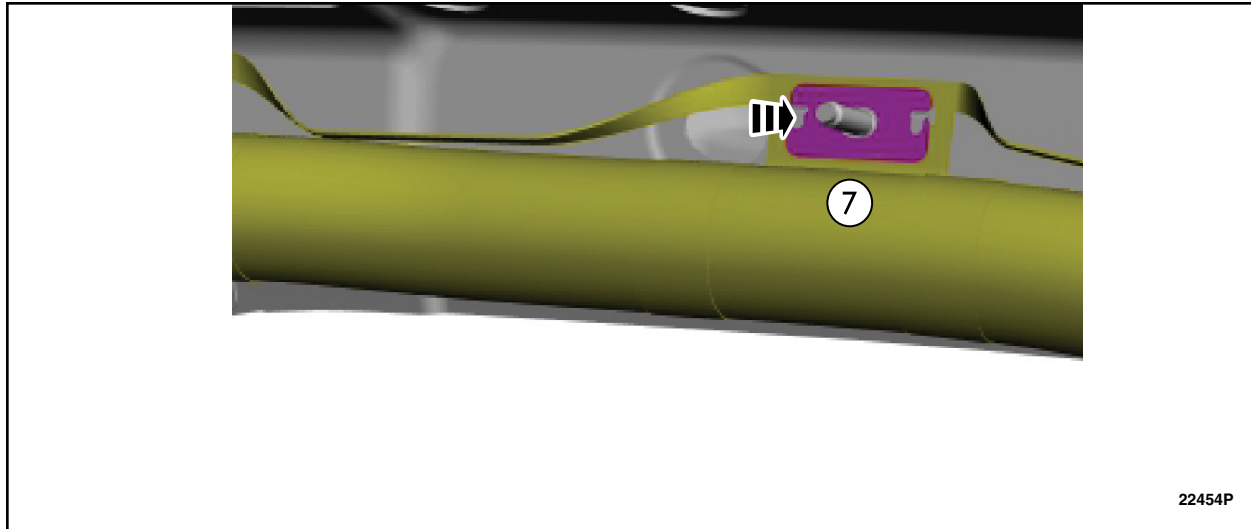

FIGURE 28
30. Attach the *new* side curtain airbag hanger. See Figure 28.